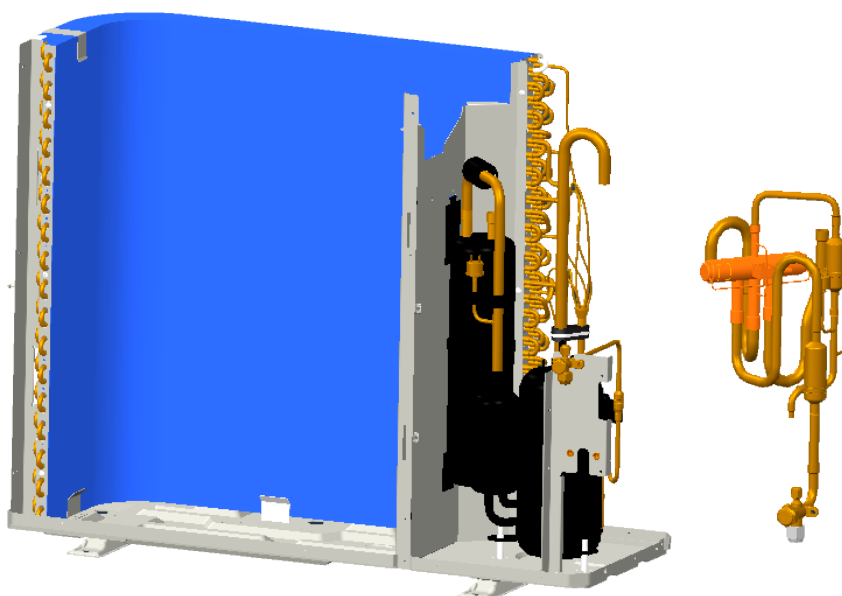

Fig.12
①. **Remove gas valve**
- Welding out the pipe connected to the gas valve [See Fig.12]